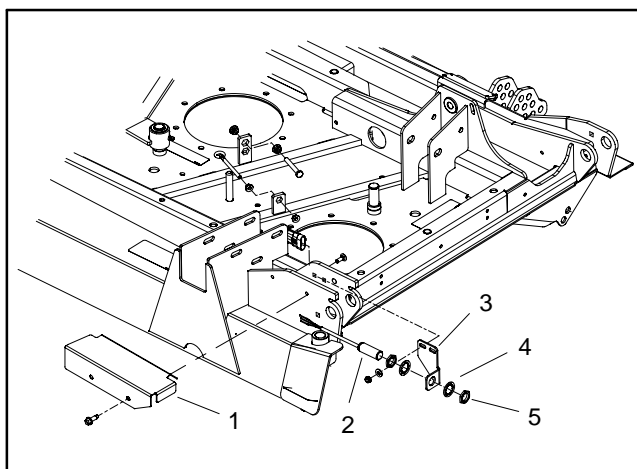
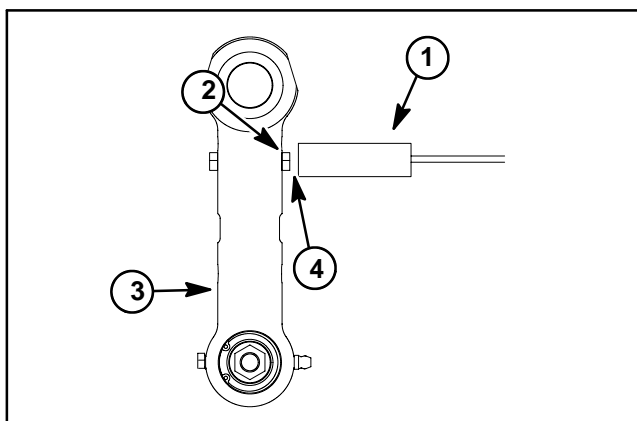

Figure 55
Figure 56
Two (2) wing deck position switches are used on the Groundsmaster 4100-D and 4110-D as inputs for the TEC-5001 controller. The position switches are powered proximity switches that are normally open. The switches incorporate an internal reed switch and a LED. These switches are secured to the center section of the cutting deck (Fig. 55). A bolt head on the wing deck link is the sensing plate for the position switch (Fig. 56).
2. Park machine on a level surface, lower cutting deck (including wing decks), stop engine and apply parking brake. Remove switch cover from deck to allow access to switch that requires testing (Fig. 55).
C. Make sure that gap between end of position switch and bolt head on wing deck link when the wing deck is lowered is from 0.070" to 0.130" (1.8 to 3.3 mm) (Fig. 56).